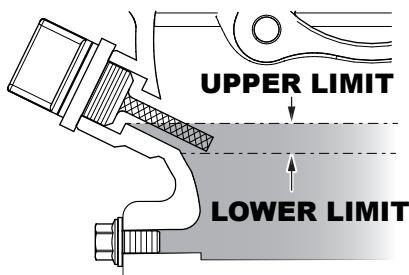

Figure 13. Engine Oil Dipstick(Oil Level)
4. If the oil level is low (Figure 13), fill to the edge of the oil filler hole with the recommended oil type (Table 7). Maximum oil capacity is 1.16 quarts (1.1 liters).